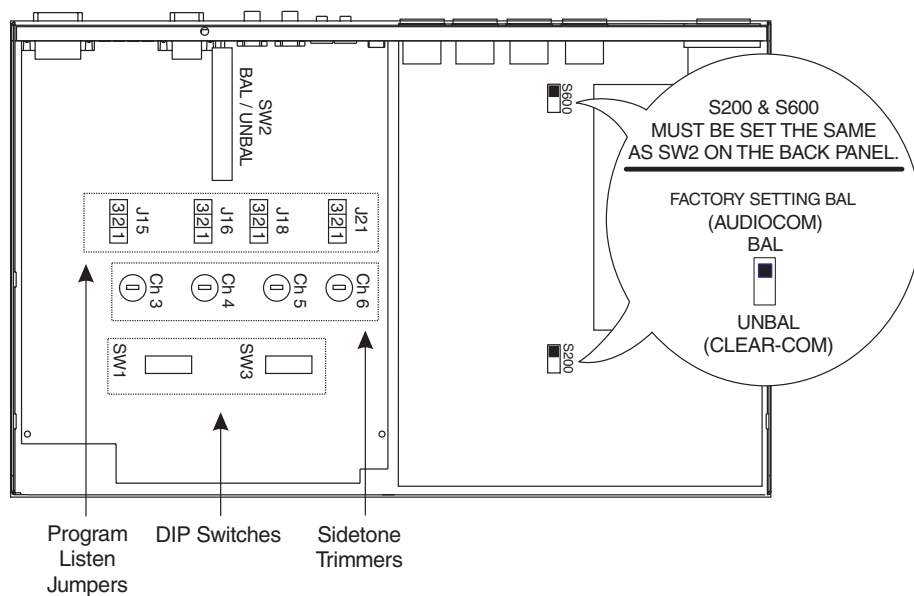

Figure 2. Locations of configuration switches, jumpers, and sidetone controls. (Top cover removed.)
- 12. Configuration Switches, Jumpers and Sidetone Controls (Figure 2). These let you customize the operation of the EMS4000 to match your intercom system requirements. See “Configuration Pre-check”, page 7, for details.
Before making connections, read the configuration notes that follow, and make sure that all switches and jumpers are properly set for your intended usage. Locations of configuration switches and jumpers are shown in Figure 2. Only the DIP switches and jumpers require internal access. If access is required, remove 3 screws from the top cover and 3 screws along the bottom edge from each side.
* These switches apply only when the BAL/UNBAL switches SW2 (back panel), S200 and S600 (both internal) are set to the BAL position for Audiocom usage (see Figure 2). When the switches are set to the UNBAL position, call send and receive are always enabled.
By default, each program input can be heard by intercom stations on the corresponding intercom channel. (This can be turned on or off for each program input via the MS2000 front panel programming. See "Turning the Program Inputs On and Off" in the Operation section of the MS2000 User Instructions.) Additionally, all program signals can be heard directly in the MS2000 speaker or headset, and each program is output at the corresponding speaker jack on the back of the EMS4000. To disable direct program listening for a program input, reset the appropriate jumper as shown in Table 2. Locations of the jumpers are shown in Figure 2, page 6.